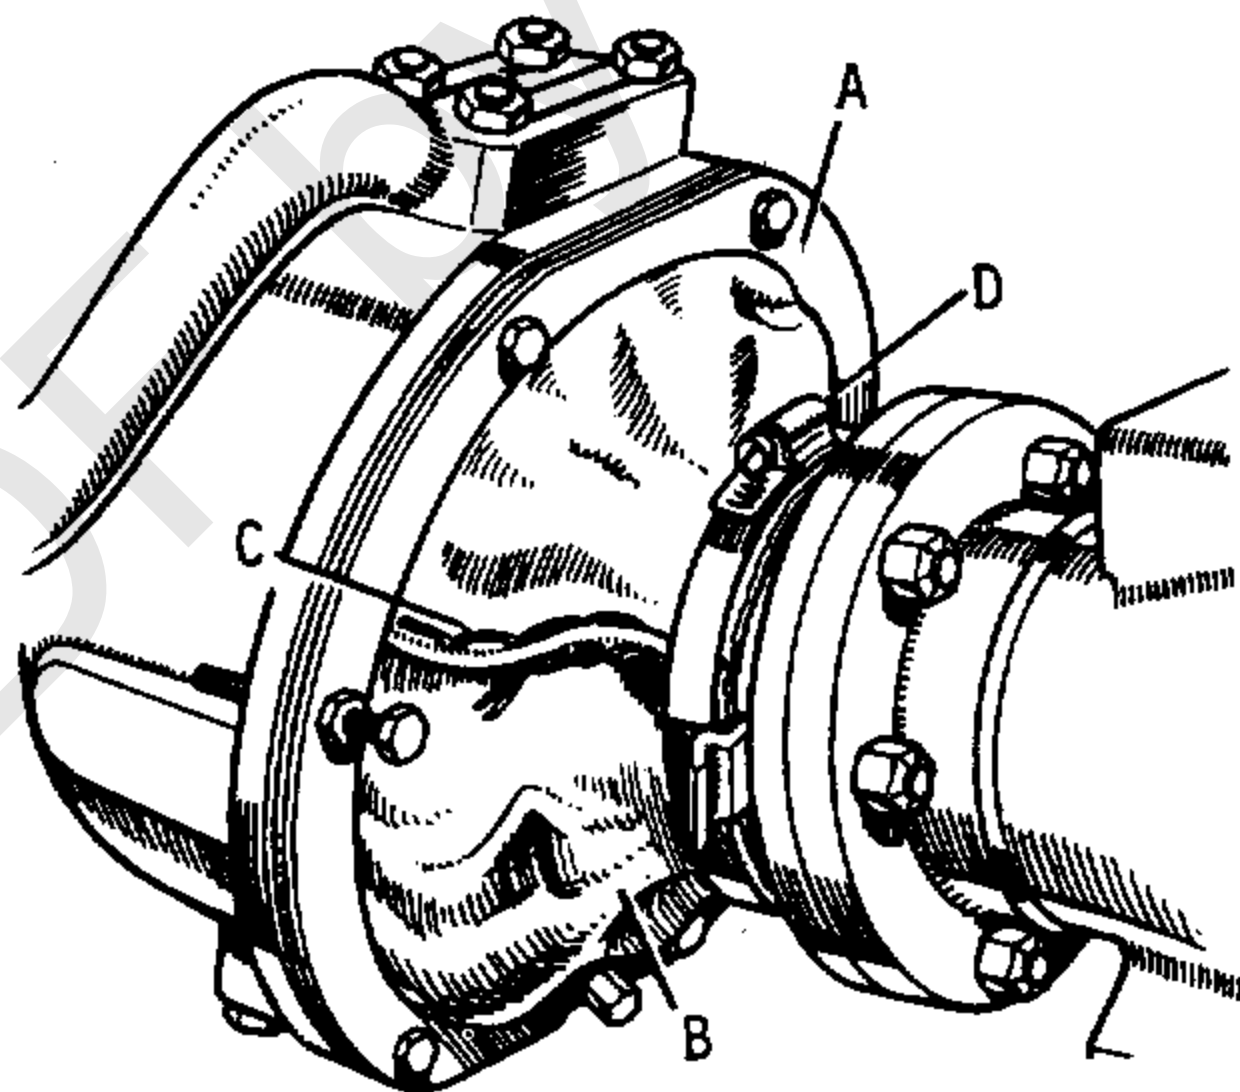

Fig. 1. Gaiter fitted to swivel housing.
7. Place the gaiter around the swivel pin housing with the smooth side exposed. Lace the joints together with double lacing, ensuring that the ends of the gaiter overlap. Lacing should be as illustrated at Fig. 1.
9. Place the gaiter around the shoulder of the spherical ball flange and secure it with the clip (RTC3518D). See Fig. 1.